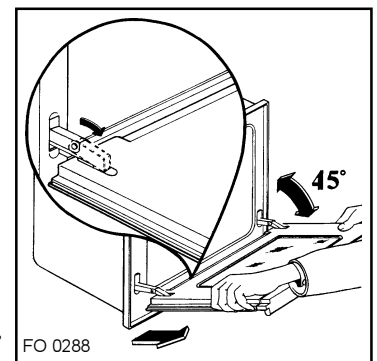

Fig. 7
- b) find the hinges linking the door to the oven (fig. 7);
- c) unlock and turn the small levers located on the two hinges (fig. 7);
- e) gently pull the oven door off its site (fig. 7);